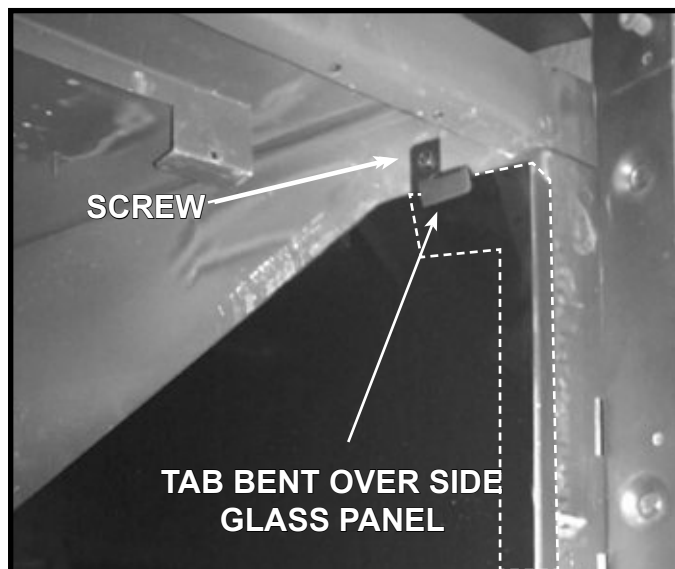

Figure 3. Install Side Glass Retention Bracket
5. Install side refractory bracket between the insulation board and the side of the firebox. Secure with screw as shown in Figure 3.
6. Bend side refractory tab over glass panel. See Figure 3.